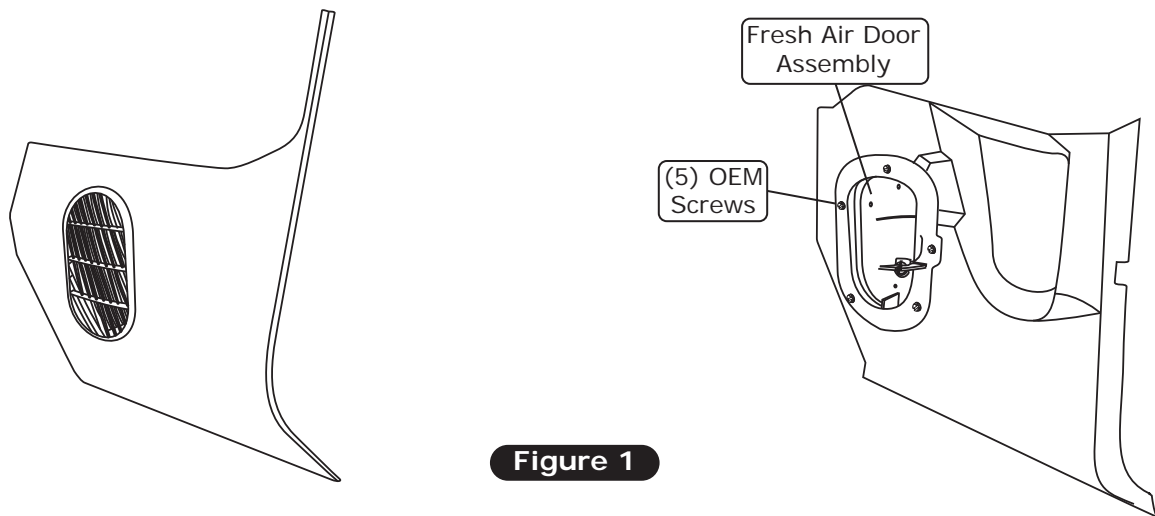

Figure 1
3. Disconnect the pull cable assembly from under the dash (discard) (See Figure 1, below).